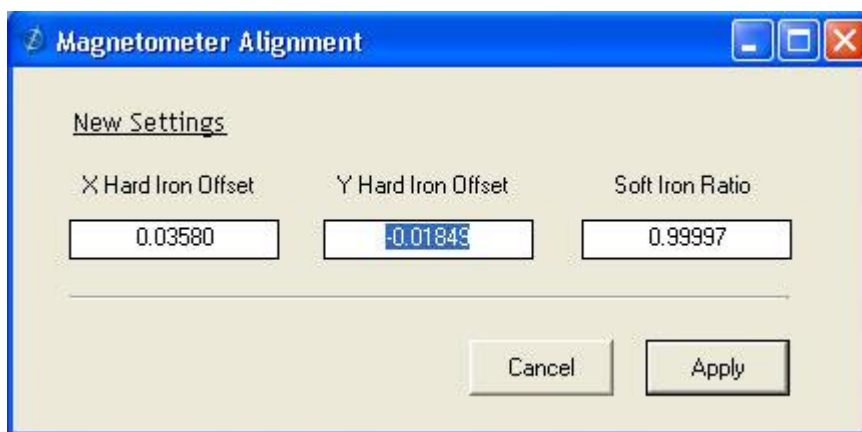

Figure 28 Magnetometer Alignment
6. Save this data to the AHRS or INS380ZA product by selecting the “Apply” button (See Figure 28).